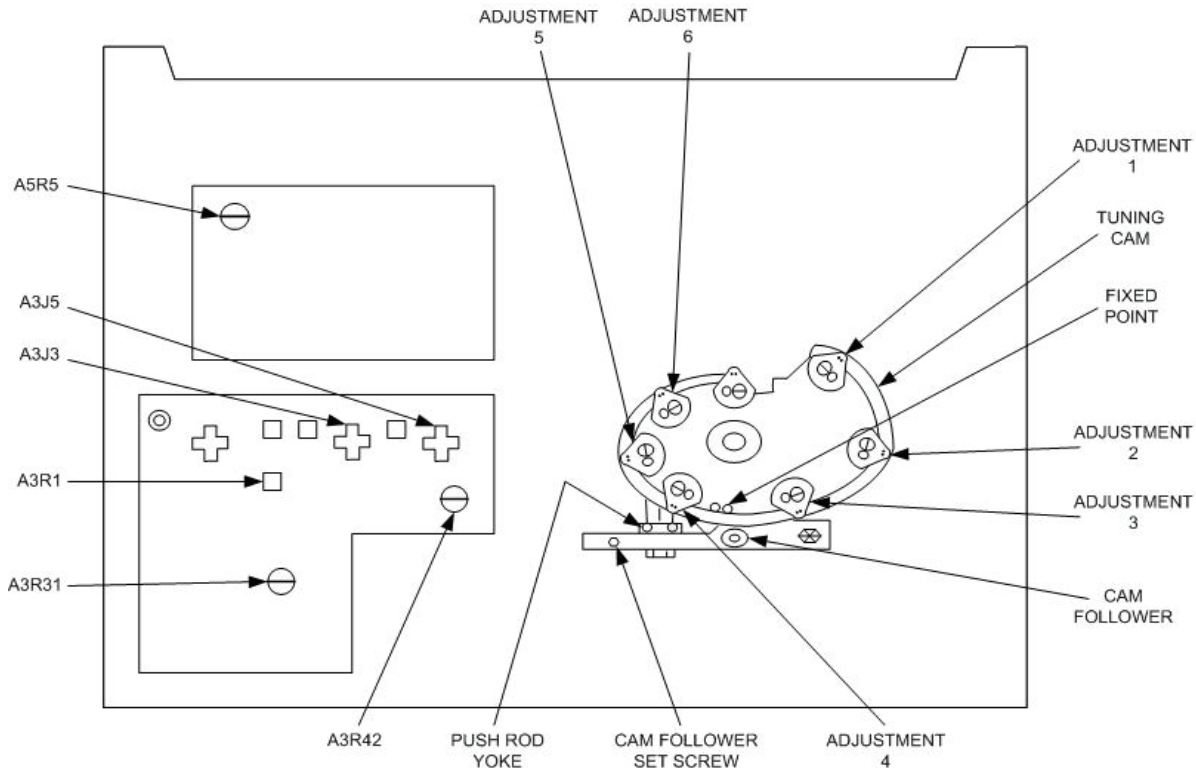

Figure 1. Signal generator - top view.
(1) Adjust **FREQUENCY GHz** control to position the CAM FOLLOWER at fixed point on tuning cam (fig. 1). Readjust **FREQUENCY GHz** dial to nearest cardinal point (approximately 9 GHz).
(2) If frequency counter indication is not within  $\pm 1$  percent of **FREQUENCY GHz** dial indication, loosen CAM FOLLOWER SET SCREW (fig. 1) and adjust pushrod yoke in or out as needed until frequency counter indication is the same as **FREQUENCY GHz** dial setting (R).
(3) Tighten CAM FOLLOWER SET SCREW and observe that frequency counter indication remains within  $\pm 1$  percent of **FREQUENCY GHz** dial setting.
(4) Loosen four hex nuts on underside of TUNING CAM for ADJUSTMENTS 4, 5, and 6 (fig. 1).
(5) Adjust **FREQUENCY GHz** control to position the eccentric ADJUSTMENT 4 (fig. 1) opposite the CAM FOLLOWER. Note **FREQUENCY GHz** dial indication; readjust **FREQUENCY GHz** dial to nearest cardinal point. Adjust hex nut 4 until frequency counter indication is same as test instrument **FREQUENCY GHz** dial indication. Hold hex nut 4 with a wrench and tighten nut on underside of tuning cam with another wrench while observing that frequency counter indication remains within  $\pm 1$  percent of **FREQUENCY GHz** dial setting (R).
(6) Repeat (5) above for cam ADJUSTMENT 5 and 6 (fig. 1).
(7) Loosen three nuts on underside of cam for ADJUSTMENTS 3, 2, and 1 (fig.1).
(8) Adjust **FREQUENCY GHz** control to position eccentric ADJUSTMENT 3 (fig. 1) opposite the CAM FOLLOWER. Note **FREQUENCY GHz** dial indication; readjust **FREQUENCY GHz** dial to nearest cardinal point. Adjust hex nut 3 until frequency counter is same as **FREQUENCY GHz** dial indication. Hold nut 3 with a wrench and tighten nut on underside of tuning cam with another wrench while observing that frequency counter indication remains within  $\pm 1$  percent of **FREQUENCY GHz** dial setting (R).
(9) Repeat (8) above for cam ADJUSTMENTS 1 and 2 (fig. 1).
(10) Repeat a (1) through (9) above.
- (1) Configure measuring receiver to measure power in the linear mode.
- (2) Adjust **ATTENUATOR** and **POWER SET** controls for 1-mW indication on measuring receiver with 0-dBm indication on **-DBM/MICROVOLTS** dial.
- (3) Adjust A3R31 (fig. 1) until TI power monitor meter indicates **CAL (R)**.
(2) Connect multimeter between chassis ground and pin 2 of A3J3 (fig. 1), using high-voltage probe. If multimeter does not indicate between -1237.5 and -1262.5 V dc, perform **b** (2) below.
(3) Press **CW** pushbutton and turn  $\Delta F$  control fully cw.